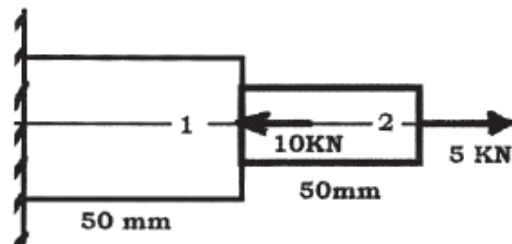

Fig.1
- b) Find stresses in step bar due to forces 10KN and 5 KN. Refer fig.1. Modulus of elasticity:  $E_1 = 200\text{Gpa}$  &  $E_2 = 70\text{Gpa}$ , Area:  $A_1 = 150\text{mm}^2$  &  $A_2 = 100\text{mm}^2$ : [8]